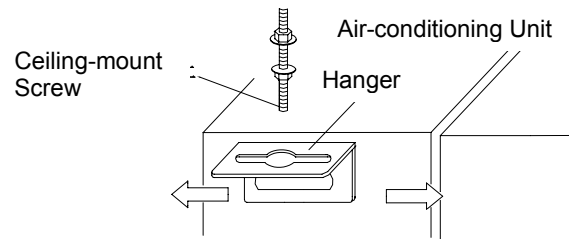

Fig. 5
- (2) Install the hanger onto the indoor unit as Figure 5 shows.